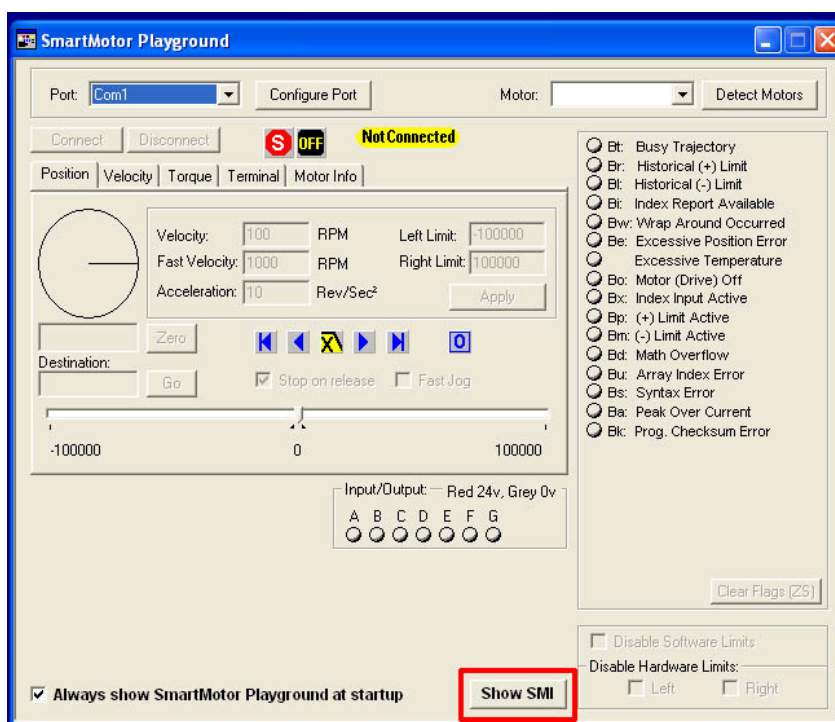
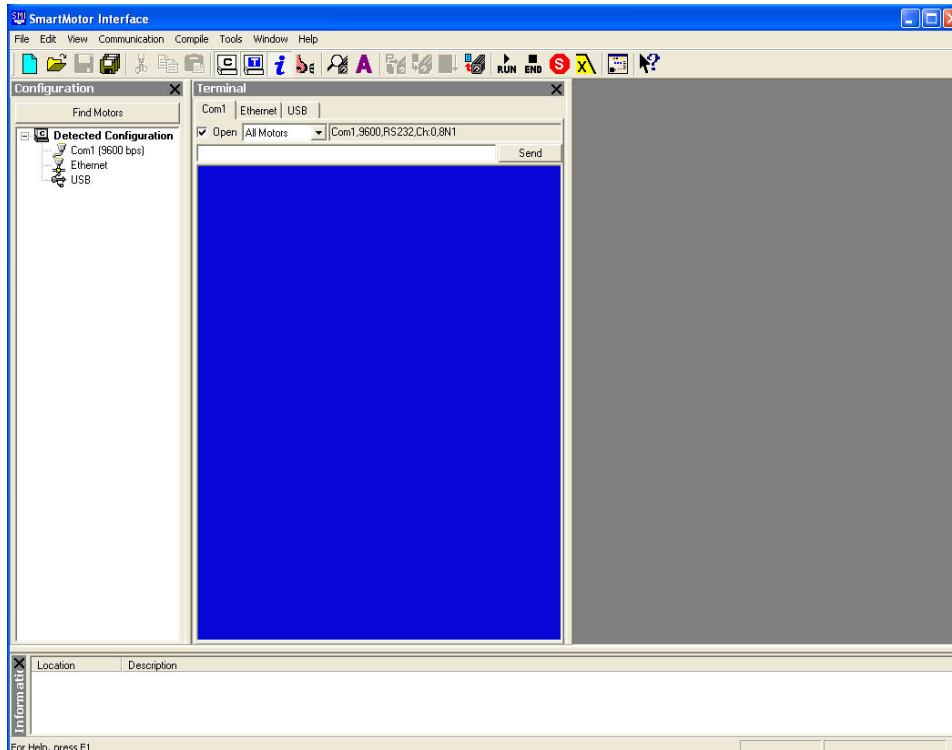

Figure 5. “Smart Motor Playground” window.
Figure 6. The Smart Motor Interface
4. If the program opens to the following screen, “Smart Motor Playground” (Figure 5), then click the “Show SMI” button at the bottom (Figure 5 red box) to get to the programming window, “Smart Motor Interface” (Figure 6). The Smart Motor Playground allows for manual, real time operation of the tumble stirrer through the software.
- To modify the program that is on the Smart Motor, go to the file menu “Communication” and select “Upload Program”, and select the correct motor. The current program will be opened in the main window of the “Smart Motor Interface” (Figure 6). Table 1 below shows an example of a factory installed program.